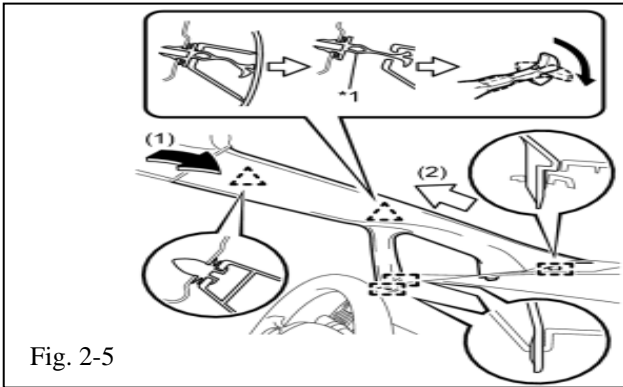

Fig. 2-5
(1) Pull the upper part of the garnish toward the inside of the cabin and disengage the two (2) clips. (Fig. 2-5)
(2) Note the orientation of the clip.
(3) Rotate the center portion of the clip 90°, then pull the pillar garnish to release the tip of the clip from the pillar garnish. (Fig. 2-5)
(5) Disengage the three (3) guides and remove the front pillar garnish. (Fig. 2-5)